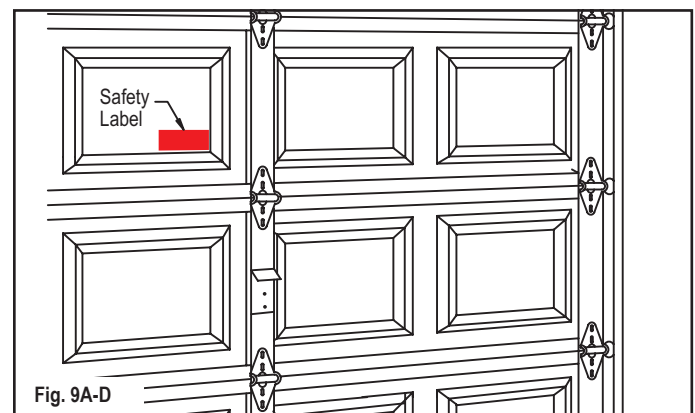

Fig. 9A-D
**NOTE:** If door has more than 1 strut, consult Table 7-A or 7-C. Attach using 1/4" x 3/4" self-tapping screws (Fig. 9A-E). When predrilled holes do not line up with hinge, drill (2) 3/16" pilot holes through strut, hinge and door at each location or use impact wrench with 7/16" socket and self-tapping screws.